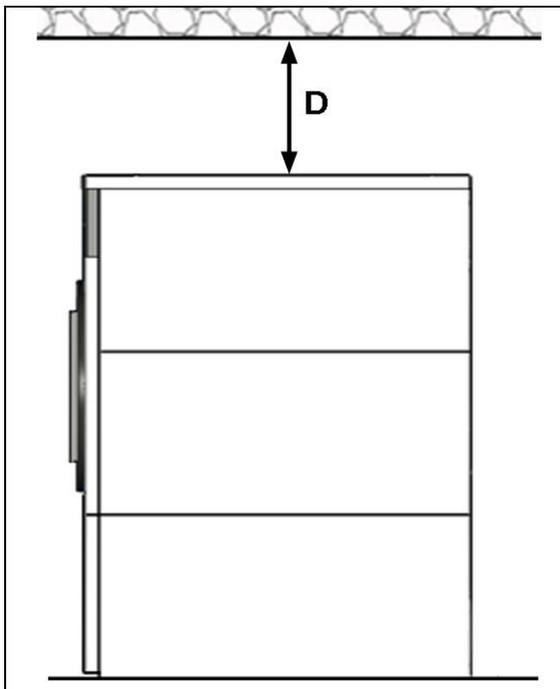

Fig. 3.2
D. Minimum height from the top cover of the dryer to the ceiling (Fig. 3.2): 500 mm (19.69 in).